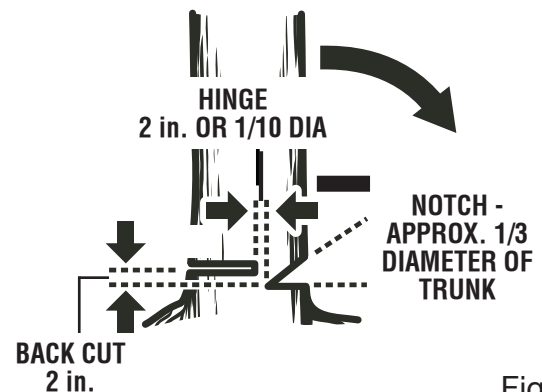

Fig. 14
- **Notched Undercut.** Cut a notch about 1/3 the diameter of the tree, perpendicular to the direction of fall. Make the cuts of the notch so they intersect at a right angle to the line of fall. This notch should be cleaned out to leave a straight line. To keep the weight of the wood off the saw, always make the lower cut of the notch before the upper cut. *See Figure 14.*
- **Felling Backcut.** The backcut is always made level and horizontal, and at a minimum of 2 in. above the horizontal cut of the notch. *See Figures 14 - 15.*
- Never cut through to the notch. Always leave a band of wood between the notch and backcut (approximately 2 in. or 1/10 the diameter of the tree). This is called “hinge” or “hingewood.” It controls the fall of the tree and prevents slipping or twisting or shoot-back of the tree off the stump. *See Figures 14 - 15.*